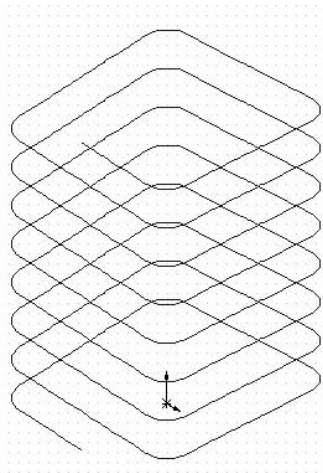

Figure 9 - The Composite Curve
24. Hide all the other features, except the composite curve. The resultant composite curve is as shown in Figure 9.